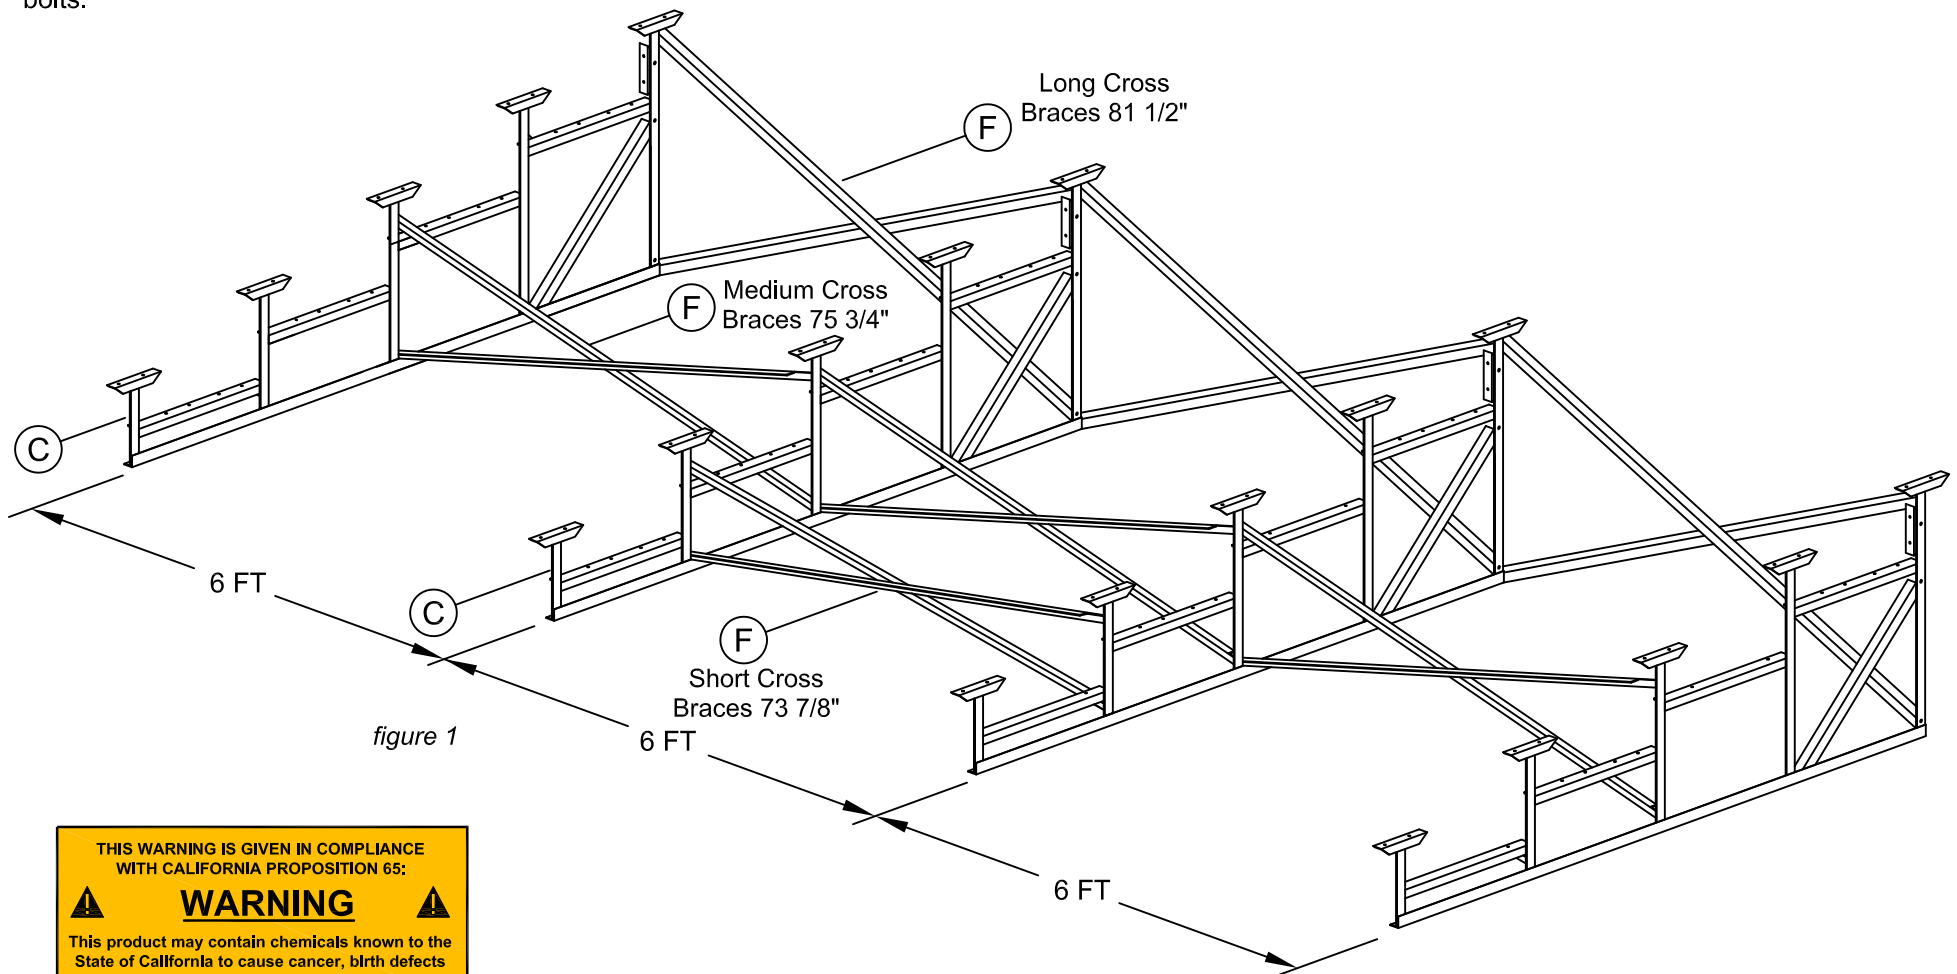

figure 1
2. Attach Cross Braces to Frames (ITEM C) as shown in Figures 1 & 2.